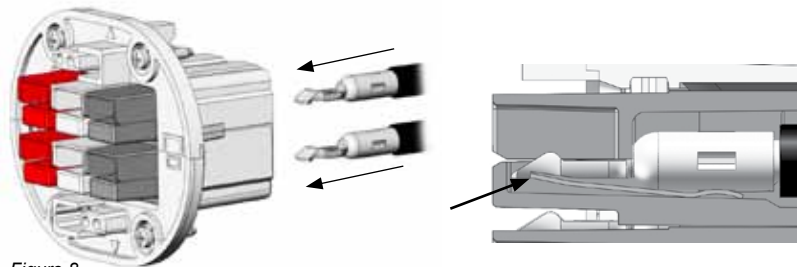

Figure 8
- Insert crimped power contacts into the appropriate Powerpole® housing until the contact lip snaps over the edge of the spring (See Figure 8)